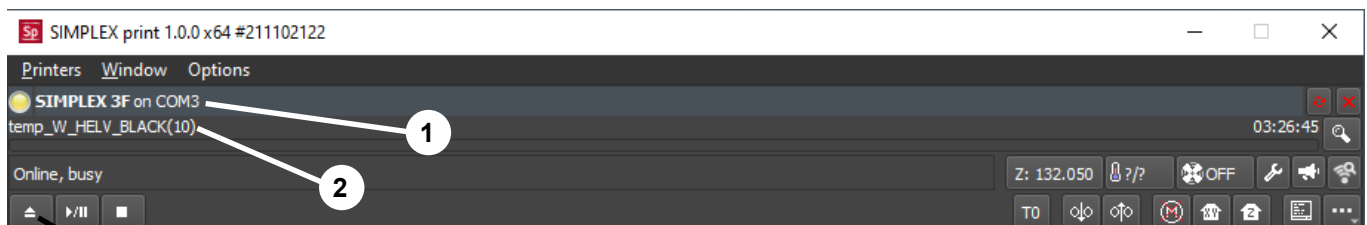

Fig. 67
- ♦ The SIMPLEX is shown in the status bar (1, Fig. 67)
- ⇒ Select and load the G-Code by clicking the load button (3, Fig. 67).
- ♦ The corresponding file name is shown in the status bar (2, Fig. 67)